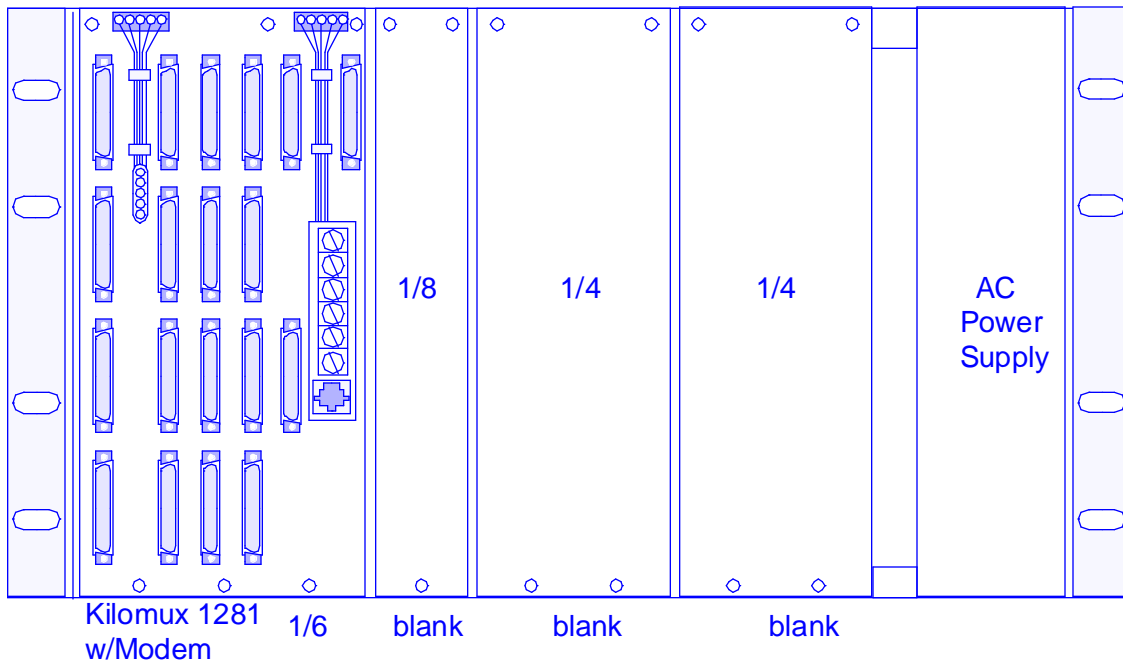

Figure 2-3 Rear View of Typical USS-1-AC Shelf
6. Plug the four-pin cable into the connector that is visible through the cutout in the upper corner of that particular panel. On the KILOMUX product there are two four-pin cables, which are plugged into the connector located directly above the cable. See *Figure 2-3*.
Install multicard plug-ins so that they do not physically bridge two quadrants, so as not to exceed the power rating of the transformers. For example, if the plug-in that is inserted occupies 6 slots (KILOMUX 1281/BP), a blank 2-slot panel or 2-slot product should be installed next to it, so that the power rating per quadrant is not exceeded. *Figure 2-3* illustrates this application.
Many different combinations may be used in the USS-1-AC shelf. *Figure 2-3* illustrates a typical USS-1-AC shelf arrangement, and *Tables 2-3* through *2-6* list the (USS-1-AC Shelf) cables needed to connect the available backplane products.